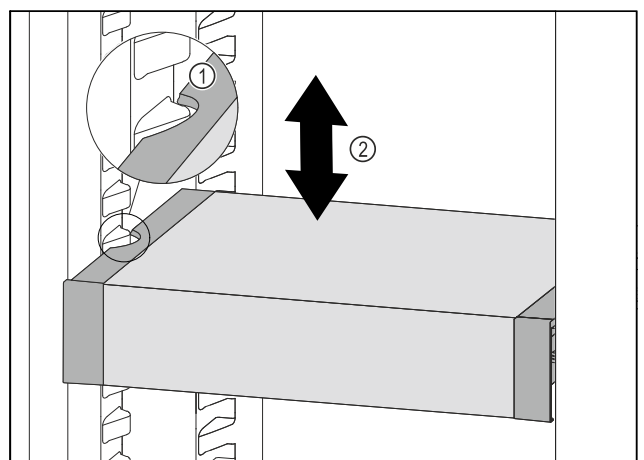

Fig. 107
- Pull VarioSafe forwards until the recesses in the side of the VarioSafe are at the level of the support rib in the refrigerator compartment. Fig. 107 (1)
- Move VarioSafe up or down in the refrigerator compartment until the desired height is reached. Fig. 107 (2)